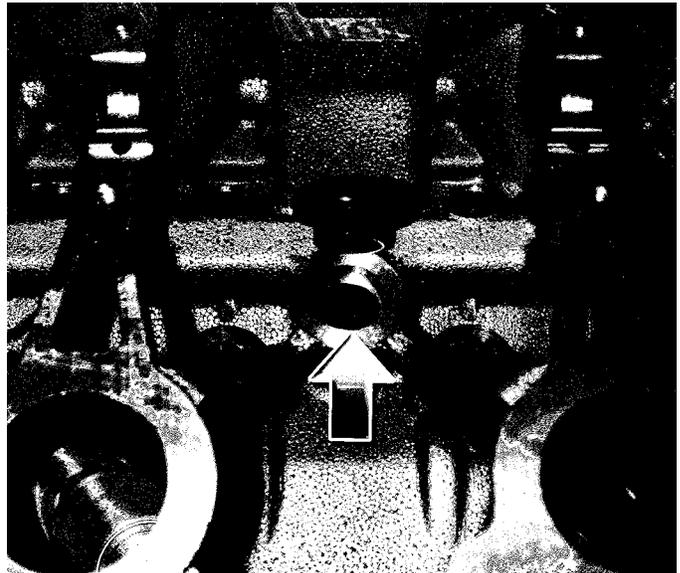

Figure 19
- The head stud holes have been spot faced to install step washers (Fig. 19).